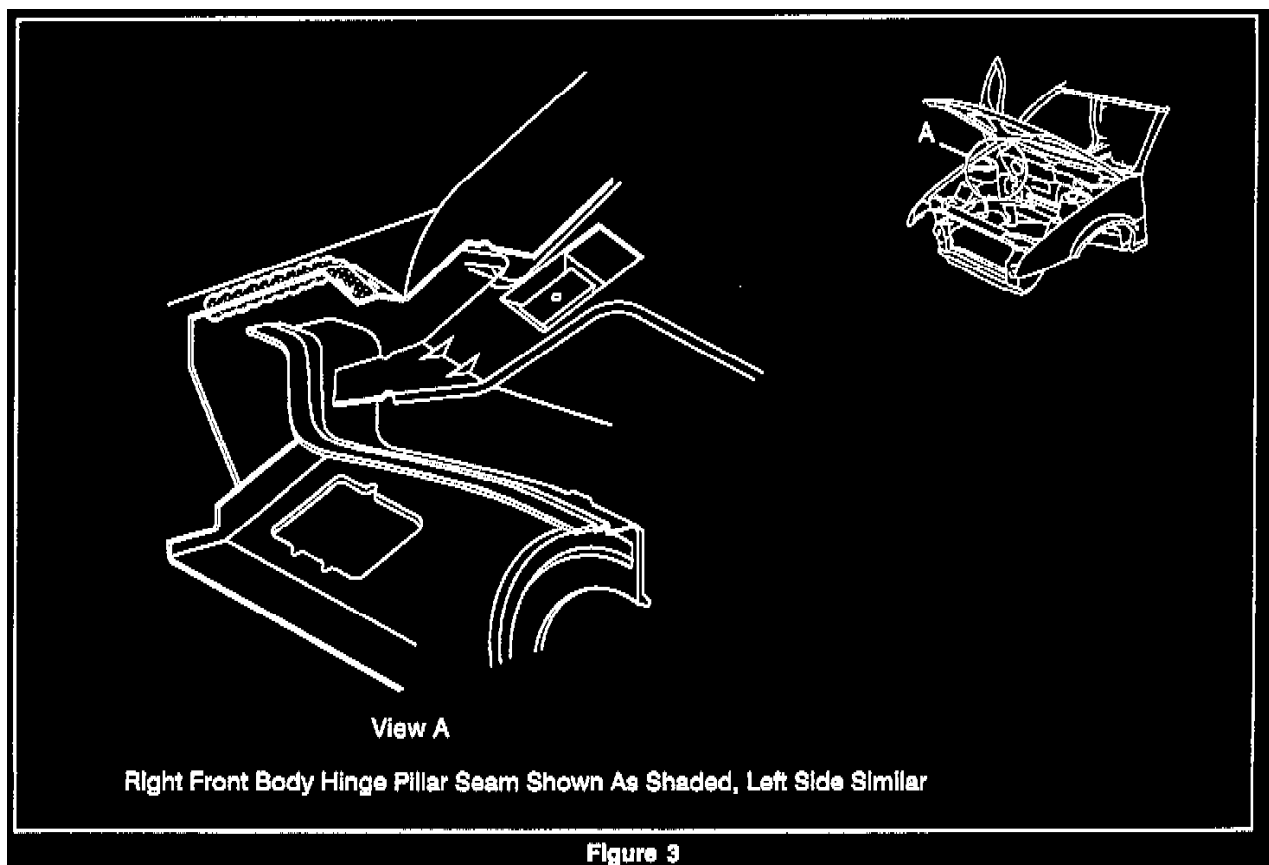

Figure 3
2. Sealer skip/void or spot weld burn through at the right front body hinge pillar seam. Refer to Figure 3.	1. Inspect for a skip or void in the right front body hinge pillar seam sealer or for spot weld burn through. 2. Apply clear sealer to any skip or void in the right front body hinge pillar seam sealer or to any spot weld burn through. 3. Allow sealer to dry. 4. Direct water over the right front body hinge pillar seam. 5. Inspect from passenger compartment for leaks.
2. Sealer skip/void or spot weld burn through at the left front body hinge pillar seam. Refer to Figure 3.	<ol style="list-style-type: none"> <li>1. Inspect for a skip or void in the left front body hinge pillar seam sealer or for spot weld burn through.</li> <li>2. Apply clear sealer to any skip or void in the left front body hinge pillar seam sealer or to any spot weld burn through.</li> <li>3. Allow sealer to dry.</li> <li>4. Direct water over the left front body hinge pillar seam.</li> <li>5. Inspect from passenger compartment for leaks.</li> </ol>